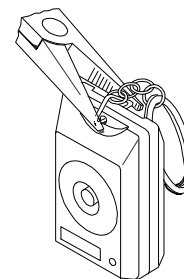

Figure 6. Key-Ring Installation
- E. Slip the key-ring triangle through the last link of the key-ring chain and install the triangle into the hole on the top of the WT-201 (Figure 6).